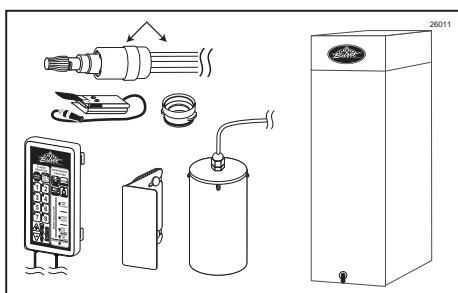

Figure 12
6. The following do not need to be sanitized on a daily basis as part of the daily opening procedures. However, inspect these areas and if necessary, clean according to instructions in the SCHEDULED MAINTENANCE section: (See Figure 12.)